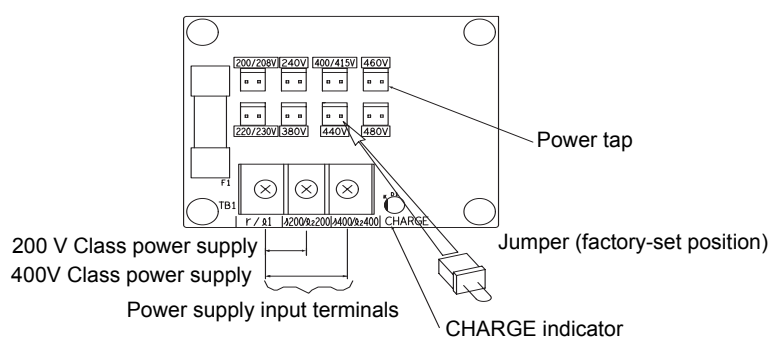

Fig 4.2 Power Supply Voltage Jumper
4. Insert the jumper at the position for the voltage supplied to the Inverter (see Fig 4.2).